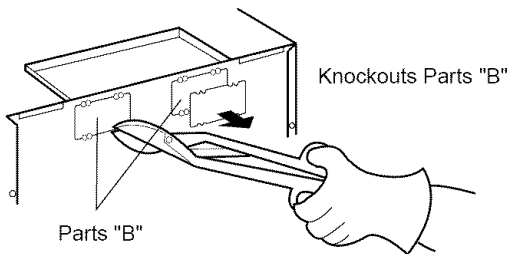

Figure 14
3. Use side cutters or tin snips to cut and remove knockouts "B" from Back plate. Discard knockouts. Be careful not to distort the plate. See **Figure 14**.